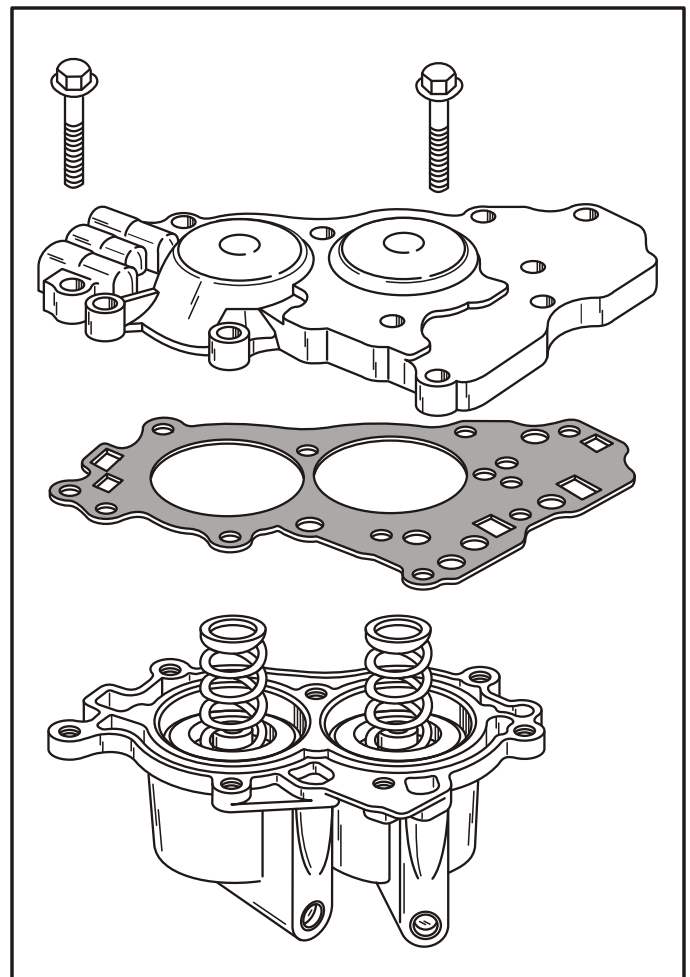

Figure 128
7. Install the accumulator spacer plate and gasket assembly onto the accumulator housing, shown in Figure 128.
8. Install the accumulator housing cover onto the accumulator housing and install seven bolts, as shown in Figure 128.